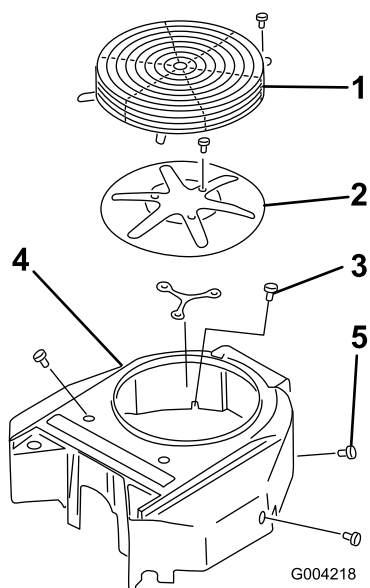

Figure 67
Before each use remove any build-up of grass, dirt or other debris from the engine screen. This will help insure adequate cooling and correct engine speed and will reduce the possibility of overheating and mechanical damage to the engine (Figure 67).
- Remove the air intake screen, recoil starter and fan housing (Figure 67).
- Install air intake screen, recoil starter and fan housing (Figure 67).